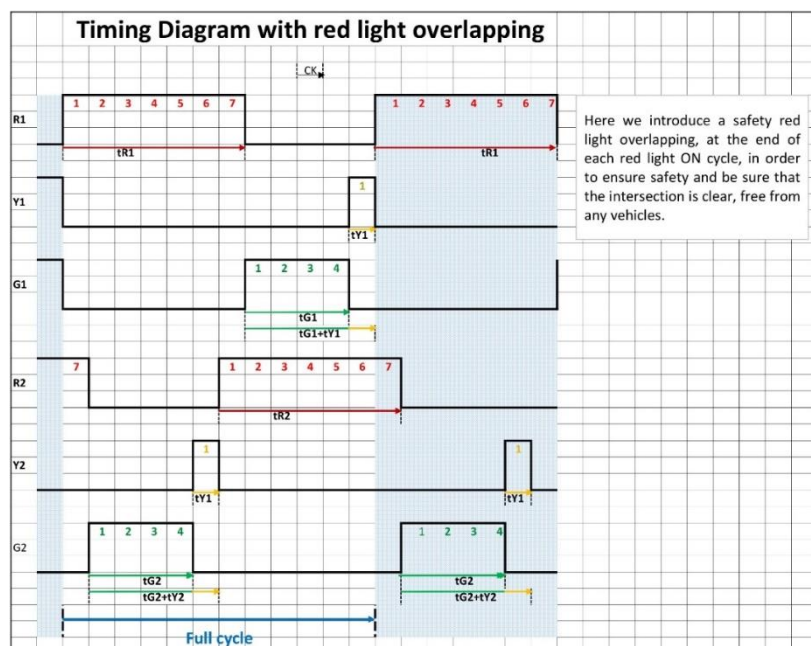

Figure 2
Now the sequence of each traffic light will be, in the example shown in Fig.2:
- Red: **7** sec. (the time of the red signal must be equal to the sum of the green and yellow of the opposite traffic light plus the overlapping time that we assumed as 1 sec each side). Refer to **Figure 2**